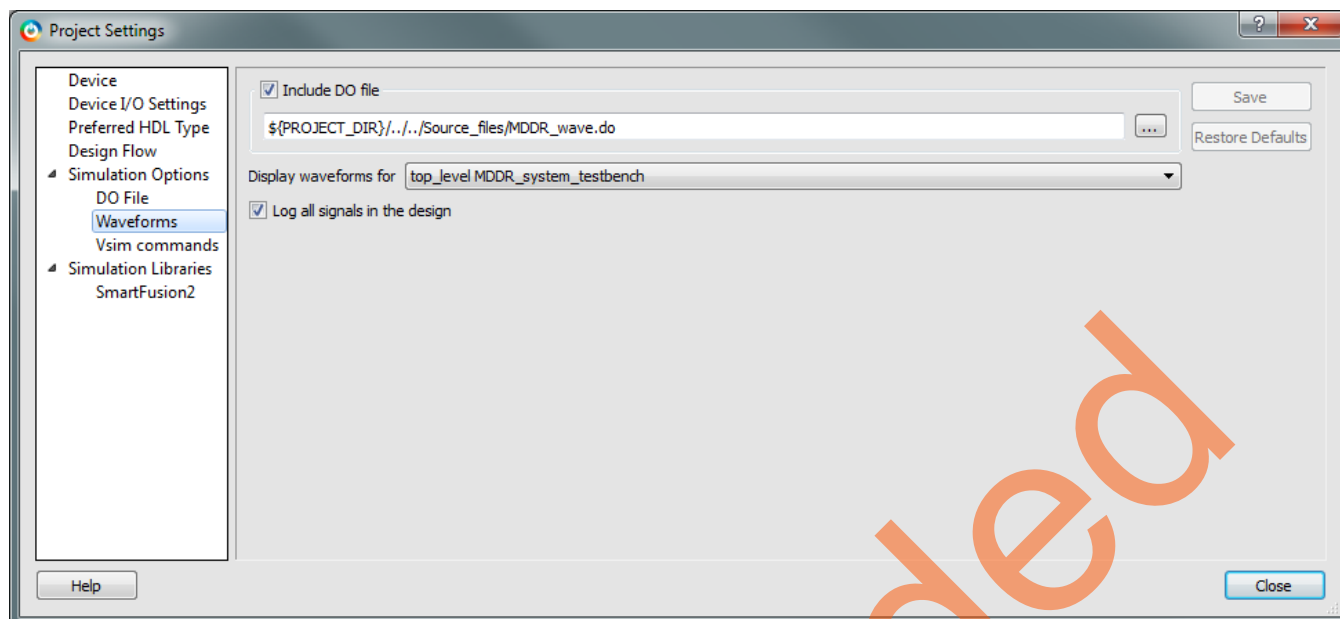

Figure 35. Project Setting – Specifying the MDDR_wave.do File Location
- Select **Include DO file**, browse to where you extracted the provided source files, and select **MDDR_wave.do** file, as shown in Figure 35. In this file the list of signals that are required are already selected so you can check for the expected results.